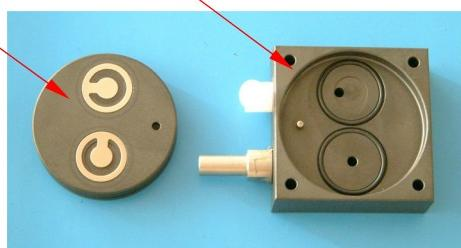

Fig 3
5.7 Carefully fit valves (qty 2) into pump head (Fig 3).
5.8 Carefully fit "O" ring seals (qty 2) into pump connecting head (Fig 3).